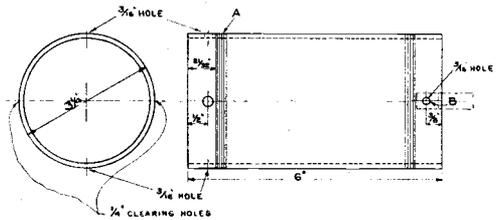

Fig. 1. Arrangement of tuning coils.
coils in position should be drilled before they are wound. These details are set out in Fig. 1, which also shows the position of the commencement of the winding in relation to these holes. The diagram in Fig. 1 gives the positions of the two holes for the spindles required in one of the tubes. In the other tube these two  $\frac{1}{4}$  in. holes can be omitted. The first turn (A) of the winding should be put on as close up to the side of the spindle hole as possible, so as to obtain sufficient